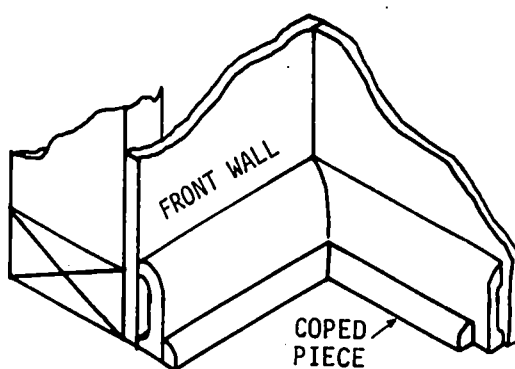

Fig. 64B-5. Fitting Base Shoe in Place
14. Make a coped end on the remaining piece of cove molding. See Fig. 64B-6.